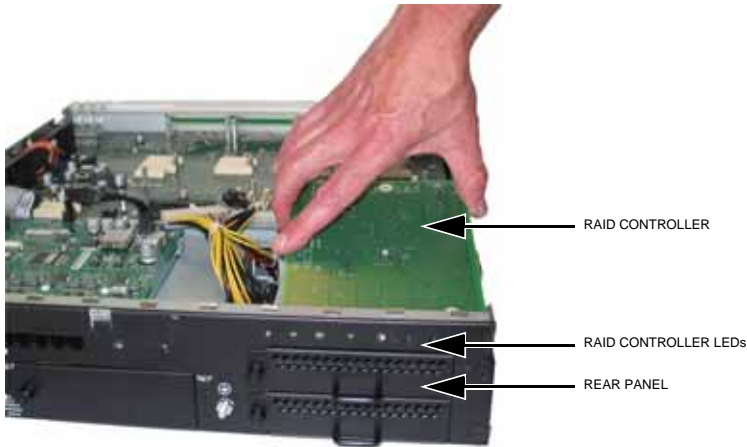

Figure 81: Position the SATA RAID Controller Board
4. Position the new RAID controller board by carefully inserting the LED indicators into the holes in the controller rear panel (see Figure 81).